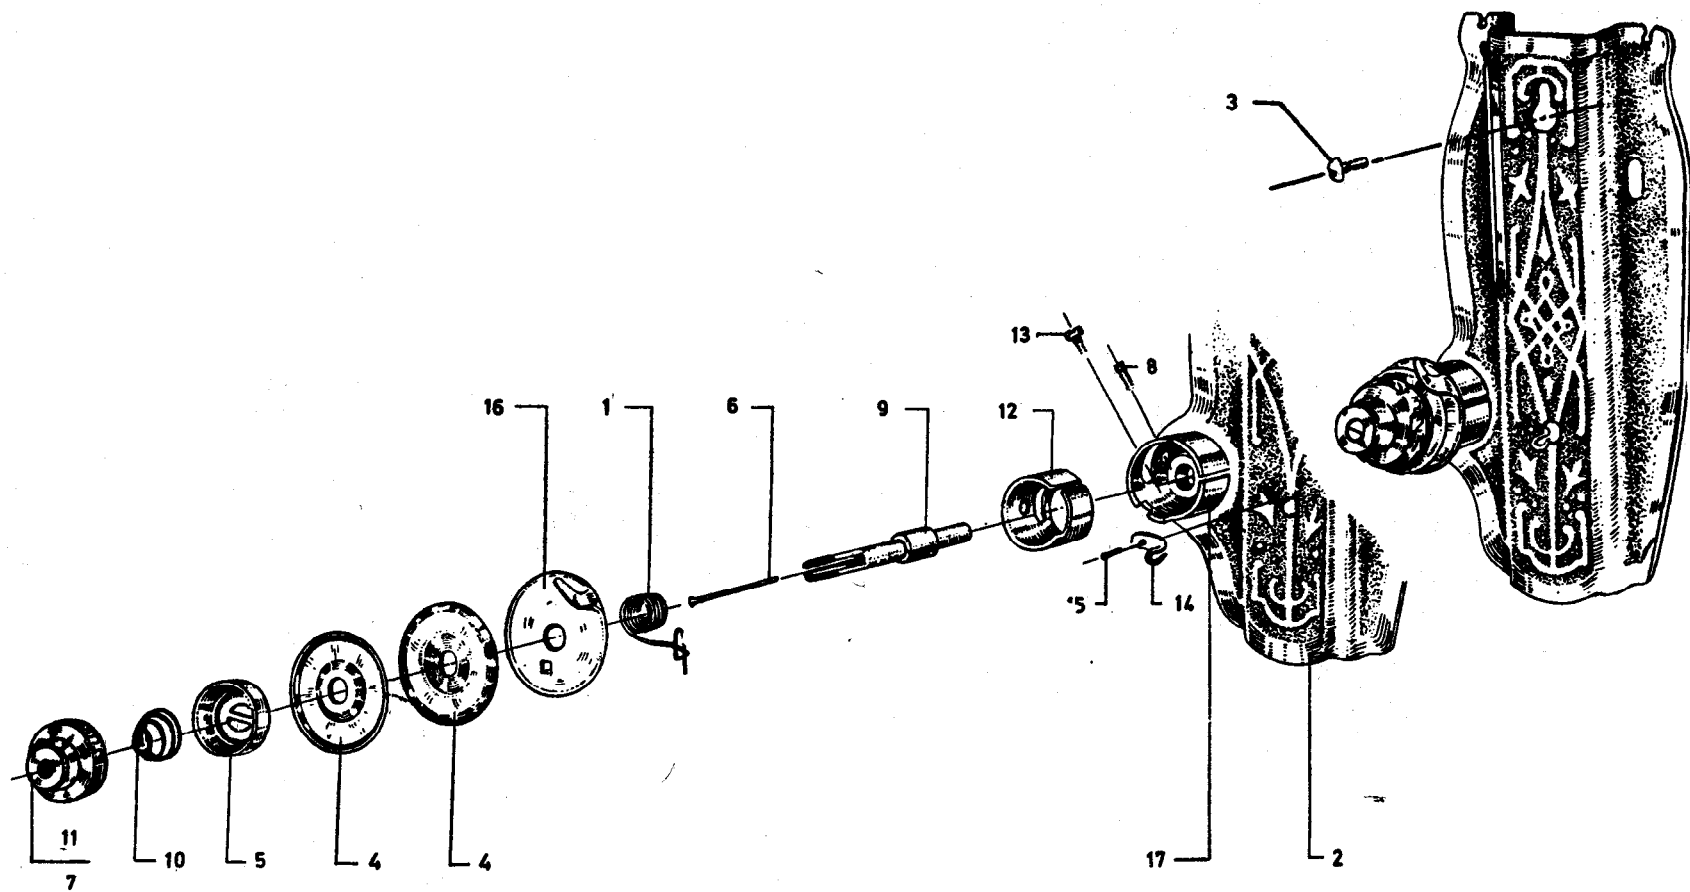

FIG. 5 FACE PLATE AND TENSION ASSEMBLY
**2.5 Face Plate and Tension Assembly — See Fig. 5.**